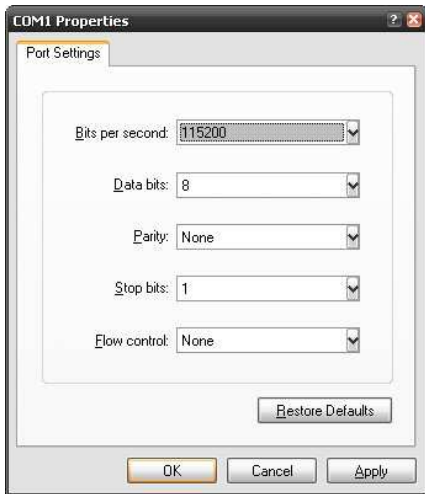

Figure 4.3 Hyperterminal setup (3)
4. A port property setup window, as in Figure 4.3, will show up. Choose the values as shown in Figure 4.3 and click “OK”